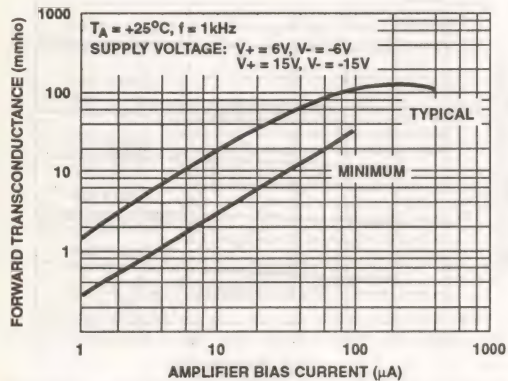

FIGURE 11. FORWARD TRANSCONDUCTANCE vs AMPLIFIER BIAS CURRENT
2. Selection of Suitable Amplifier Bias Current. The amplifier bias current is selected from the minimum value curve of transconductance (Figure 11) to assure that the amplifier will provide sufficient gain. For the required  $g_{21}$  of 5.5mmho an amplifier bias current  $I_{ABC}$  of 20μA is suitable.